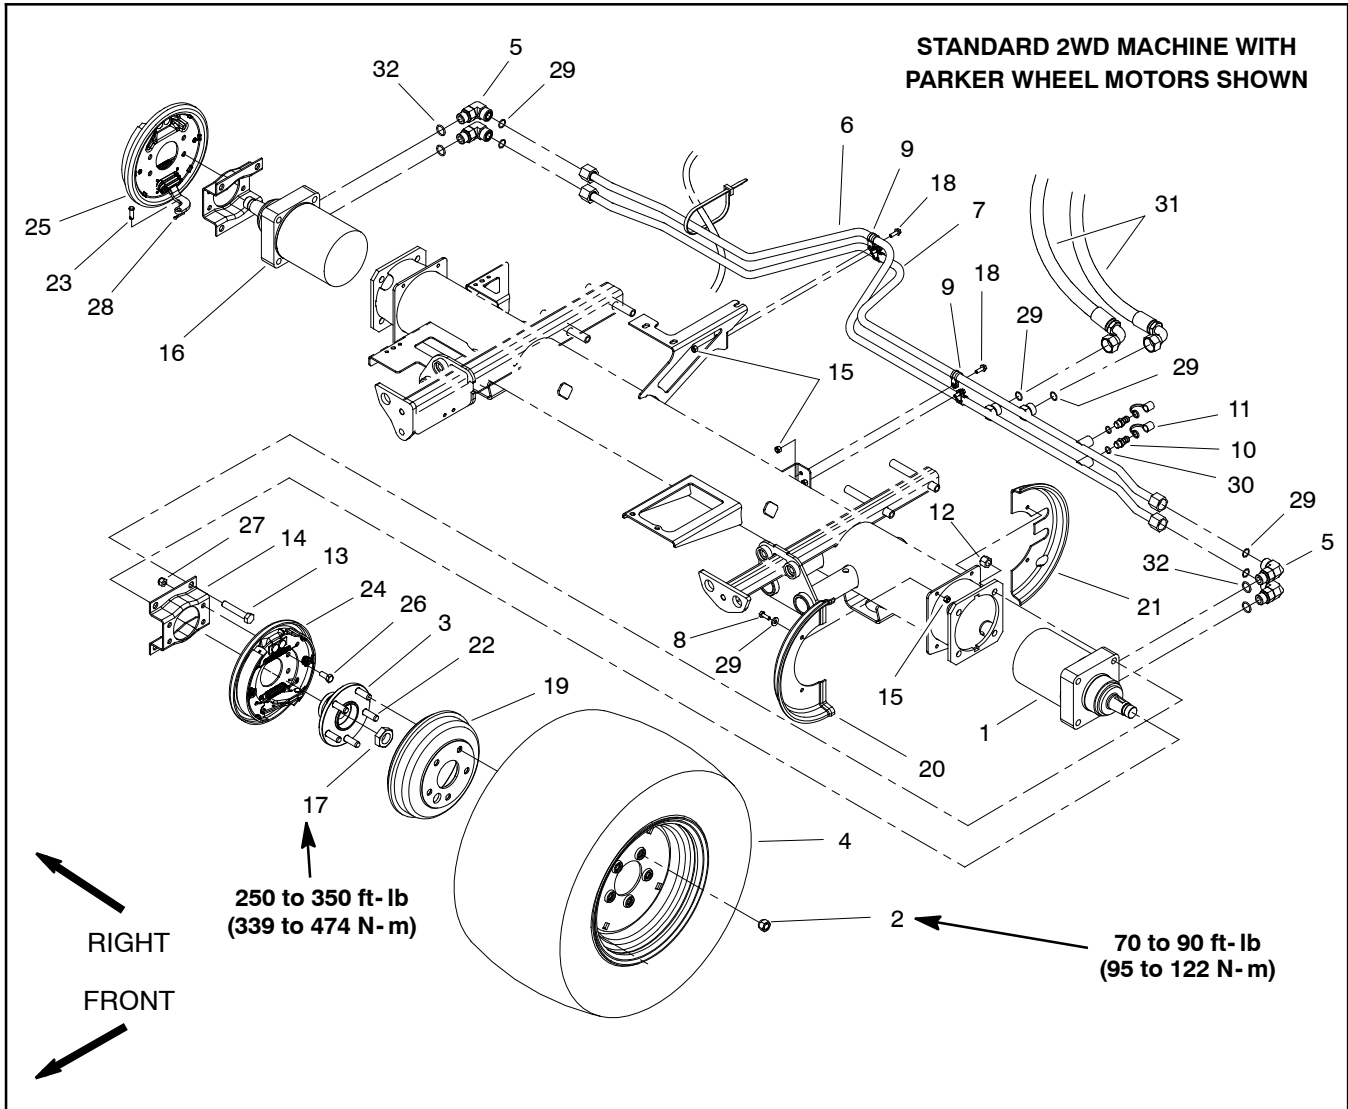
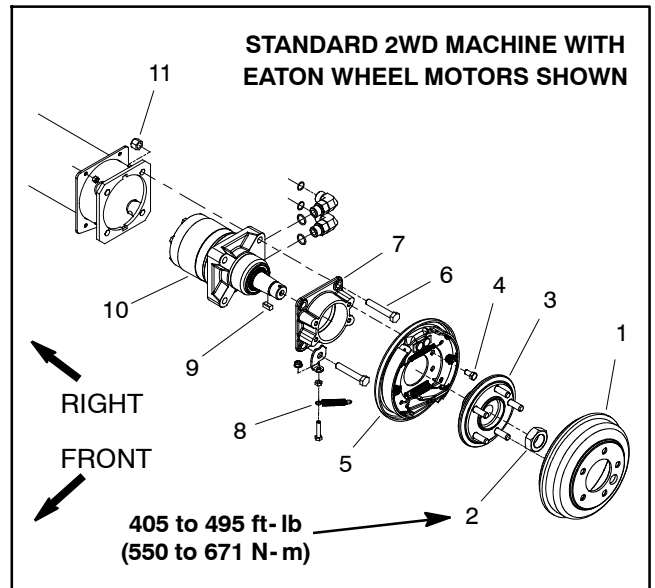

Figure 5
Figure 6
## Removal (Fig. 5)
3. Loosen, but do not remove, lock nut (item 17) from wheel motor shaft.
**NOTE:** Clevis pin that secures brake cable to brake actuator lever is secured with cotter pin (shown in Fig. 5) or extension spring (shown in Figs. 6 and 7).
12. If necessary, remove backing plate from machine by loosening and removing four (4) cap screws and lock nuts.
## Installation (Fig. 5)